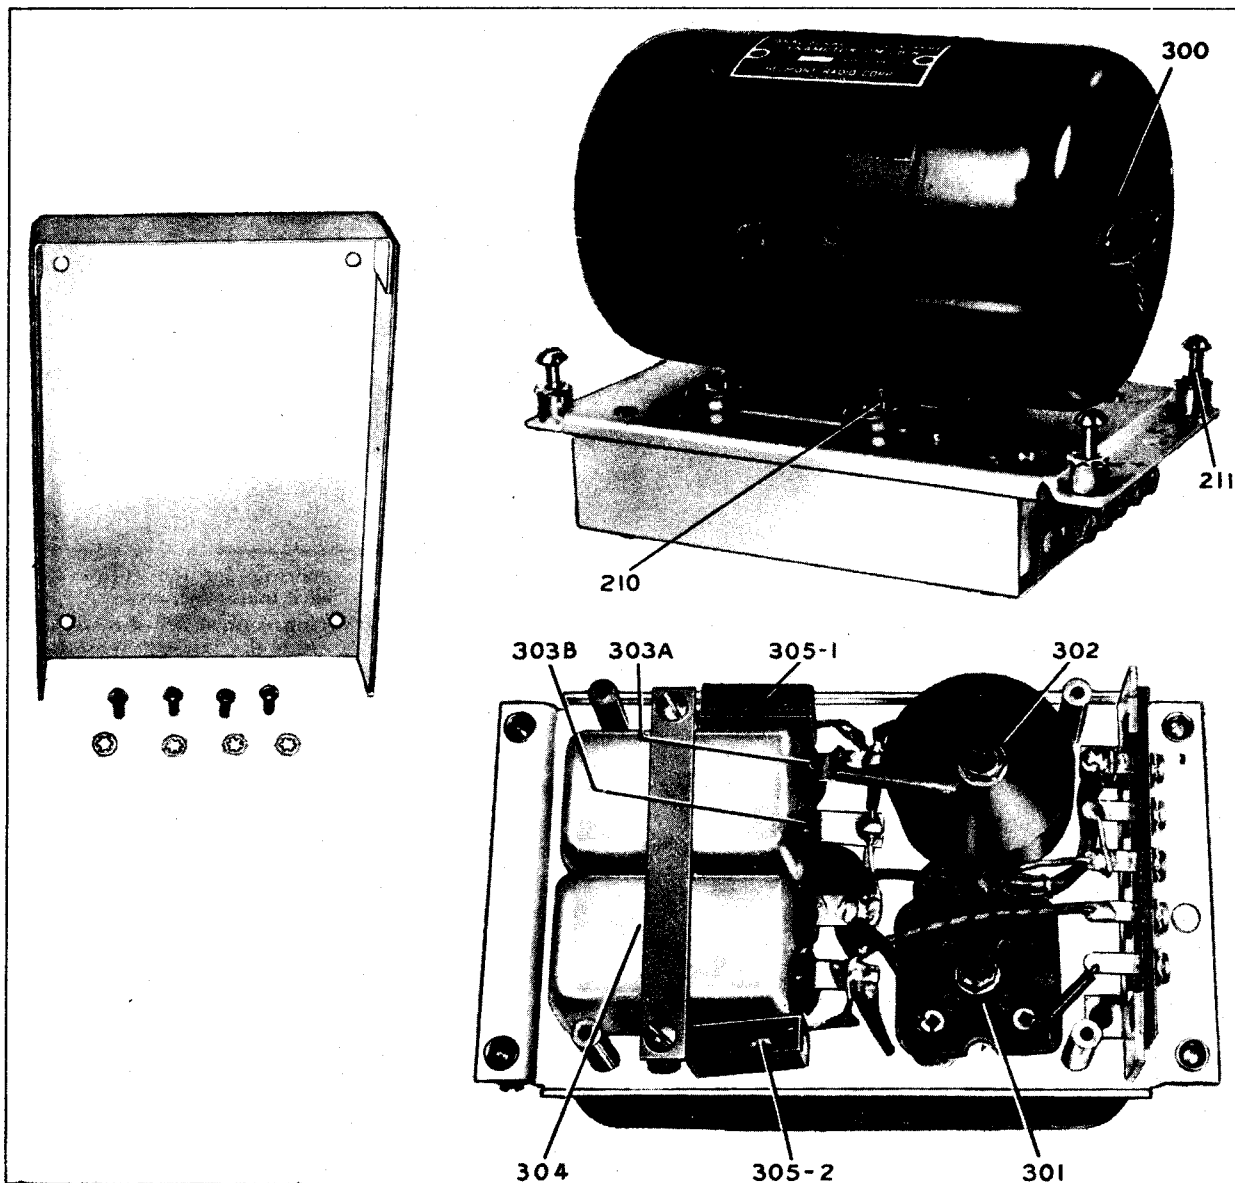
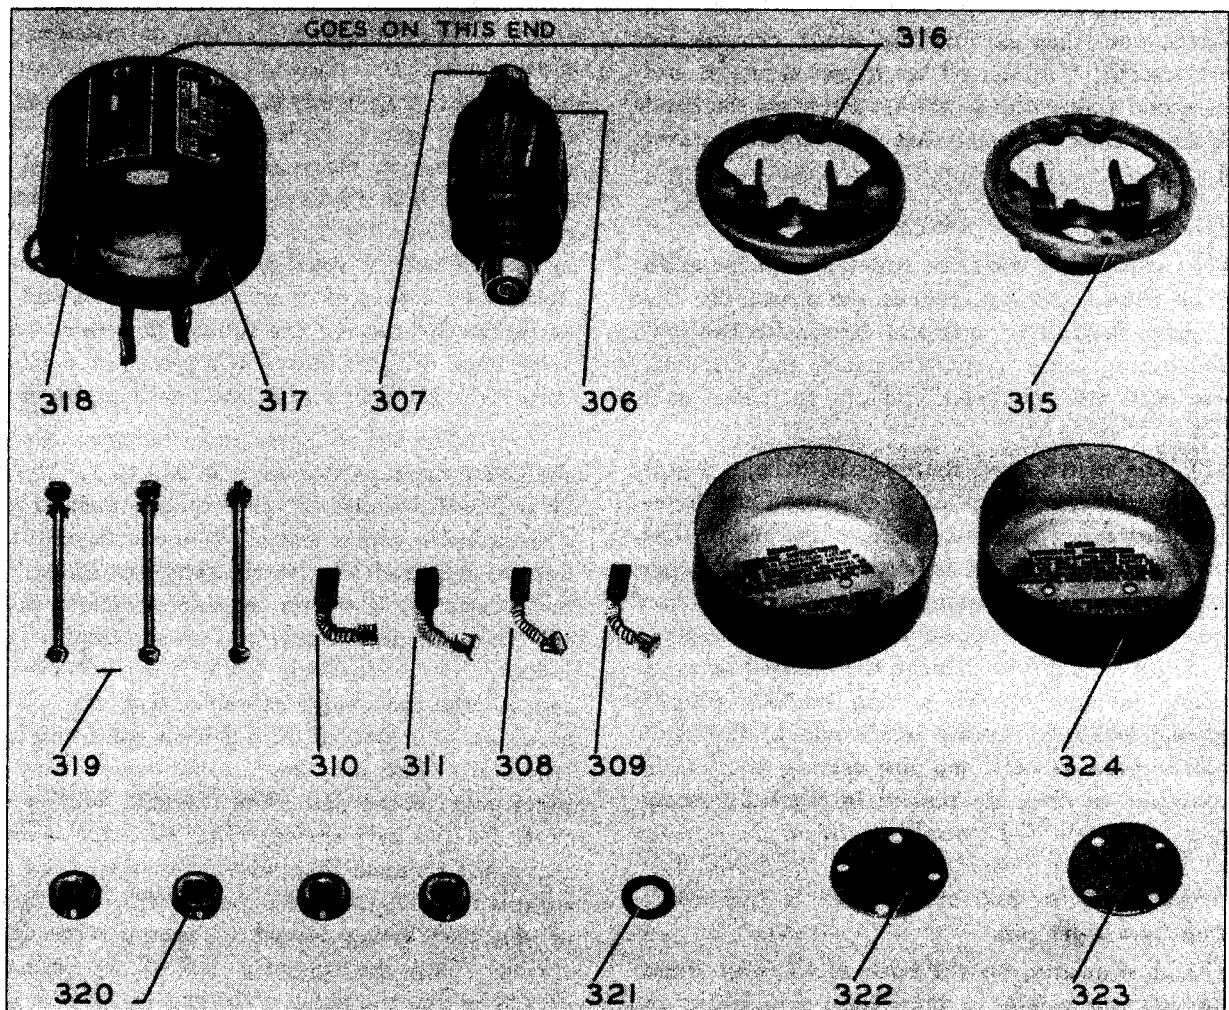

Figure 5-3. Dynamotor DM-28(*) or DM-24(*) and View Showing Filter Open
Figure 5-4. Dynamotor DM-28-(*) or DM-24-(*)—Disassembled
(2) Loosen the two thumbscrews on the receiver panel, and draw the chassis from the cabinet. Lay the chassis with top upwards on a smooth, flat surface, with the rear toward the operator. Loosen the five connector screws on the dynamotor terminal strip and withdraw the spade terminals beneath them.
(3) Loosen the four captive screws 211, Figure 5-3; which hold the dynamotor unit to the chassis. Remove the dynamotor and filter assembly from the receiver by grasping the dynamotor and lifting vertically.
(4) The filter portion of the dynamotor unit is made accessible by the removal of the filter unit cover located at the base of the dynamotor. (See fig. 5-3.)
(5) Lubricate the dynamotor at 1,000 hours or approximately six months of ordinary service. For ordinary and LOW temperature conditions use a mineral oil grease AN-G-15. For unusually high temperatures which are present in tropical climates use AN-G-5 grease. The directions for lubrication are stamped on the inside of the end-bell dust covers. Access to the bearings of the dynamotor is obtained by removing the dust covers after first cutting the safety wires and removing the retaining screws, then unscrewing the bearing end plates. Do not PACK the lubricant in these bearings.
(6) When necessary to replace the ball bearings or turn down the commutators, first remove the brushes from their cartridges. (See fig. 5-4.) Remove the nuts from the tie rods which hold the bearing end-bells, and pull the end-bells away from the